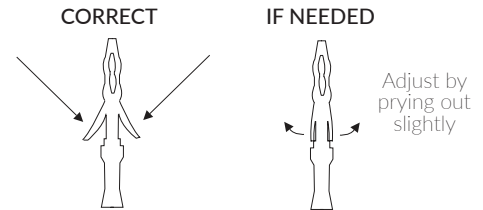

Figure 4-5
6. Examine the retaining flanges on the pin, as they may have become damaged during the process of routing wire through the vehicle. These retaining flanges are crucial to securing the pins inside the connector. Adjust these flanges as needed. See Figure 4-5.